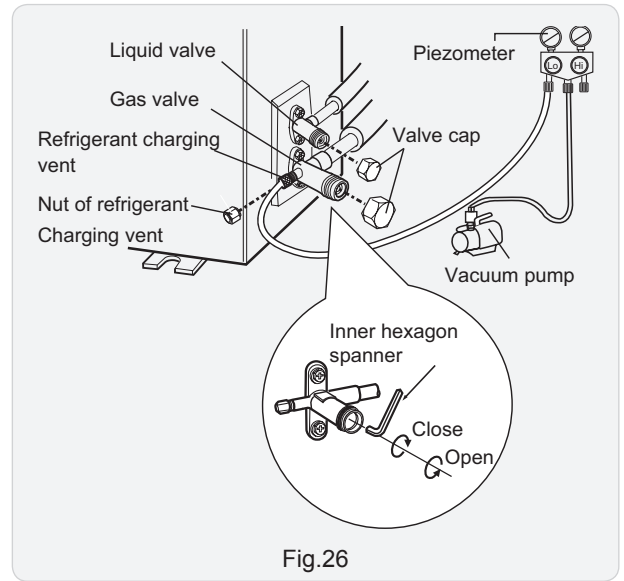

Fig.26
- (1) Remove the valve caps on the liquid valve and gas valve and the nut of refrigerant charging vent.
- (2) Connect the charging hose of piezometer to the refrigerant charging vent of gas valve and then connect the other charging hose to the vacuum pump.
- (3) Open the piezometer completely and operate for 10-15min to check if the pressure of piezometer remains in -0.1MPa.
- (4) Close the vacuum pump and maintain this status for 1-2min to check if the pressure of piezometer remains in -0.1MPa. If the pressure decreases, there may be leakage.
- (5) Remove the piezometer, open the valve core of liquid valve and gas valve completely with inner hexagon spanner.
- (6) Tighten the screw caps of valves and refrigerant charging vent. (As show in Fig.26)